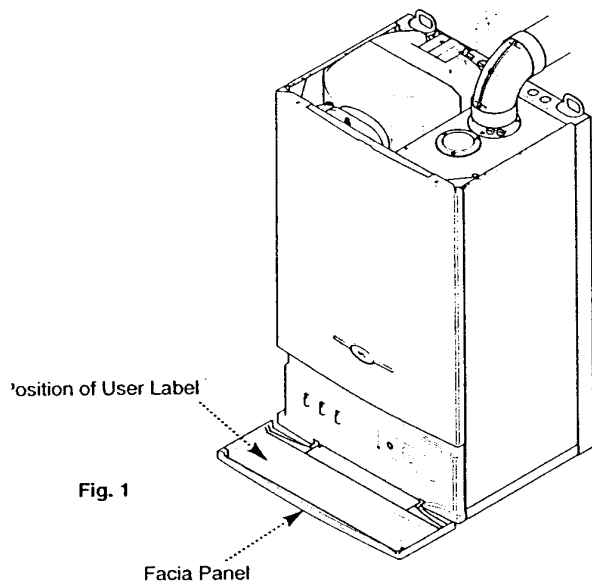

Fig. 1
7. A label giving details of the model, serial number and Gas Council number is situated on the rear of the fascia panel (Fig. 1).